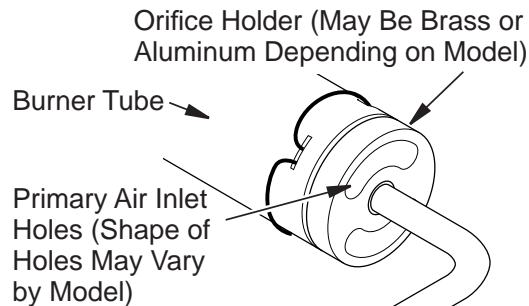

Figure 42 - Orifice Holder On Outlet Burner Tube
2. Inspect burner, pilot and primary air inlet holes on orifice holder for dust and dirt (see **Figure 42**).